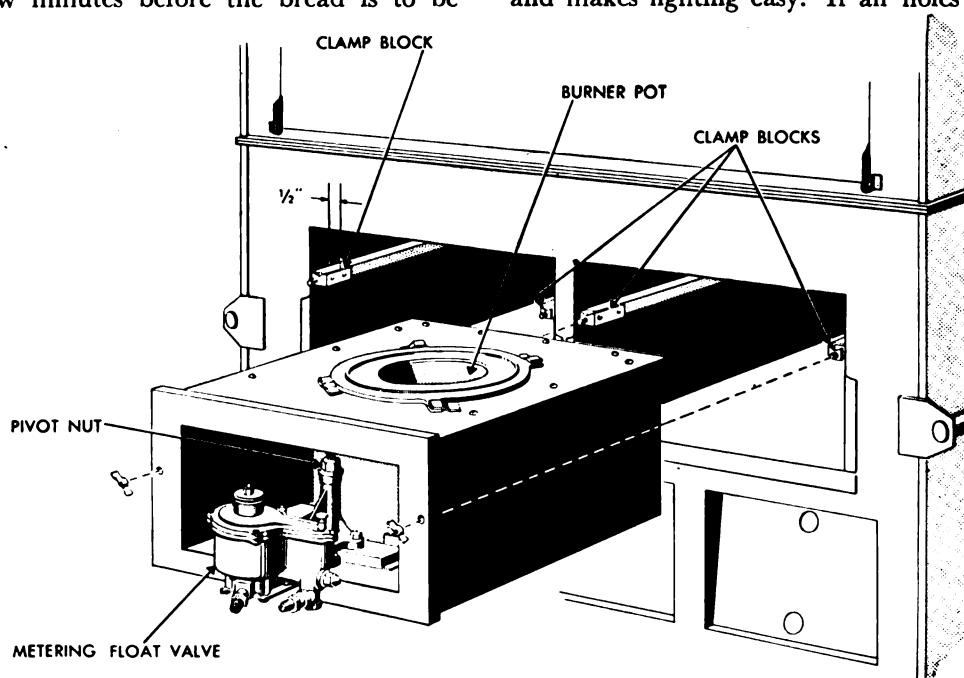

Figure 69. Method of installing burners, pot type (65-A-4910), in oven, bake, field, M1942.
(3) See section XI, appendix, for a list of parts for mechanical maintenance.
*b. INSTALLATION* (see figs. 69 and 70). (1) Attach the clamp blocks to the edges of the burner rails. (See fig. 69.) Place these blocks about one-half inch from the front, making sure that the edge of the pan enters the slot in the block full depth. Fasten each block with the two square head screws provided.
(2) Slide one burner unit into each burner compartment of the oven, so that the studs on the clamp blocks pass through the holes in the burner units. Clamp each burner unit with the two wing nuts. The joint around the front of the oven and the burner unit must be air tight, as any leak around this joint will interfere with combustion. It may be necessary to calk the crevices between the